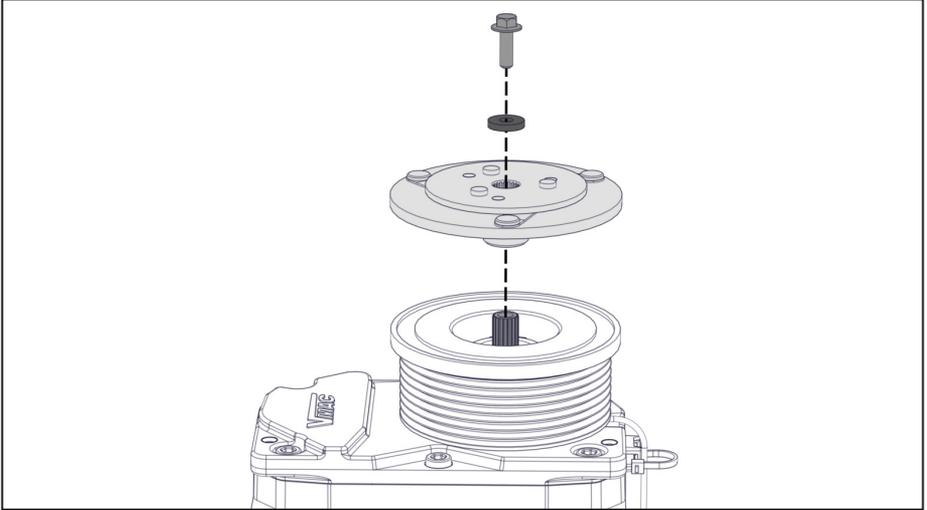

Figure 13 — Install the armature
- Align the splines on the armature with the compressor shaft and slide the armature onto shaft. Push the armature down until the armature is fully seated (Figure 13).